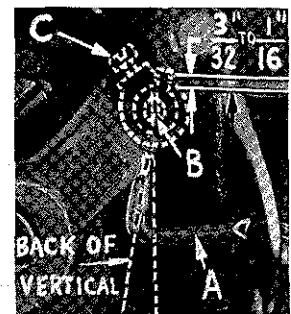

Fig. 7
Insert upper spreader (A, Fig. 7) in its holder. Screw (B, Fig. 7) holds spreader in its holder, and permits spreader to be pushed in or out, or turned around its shank. Screw (C, Fig. 7) on collar holds spreader holder in the shaft, and allows holder to be rotated or adjusted laterally.
**Preliminary Setting:** When spreader is at the right end of its stroke, spreader holder should be set to position spreader shank slightly back of vertical (Fig. 7). Top end of spreader shank should extend  $3/32$  to  $1/16$  inch above the holder (Fig. 7).